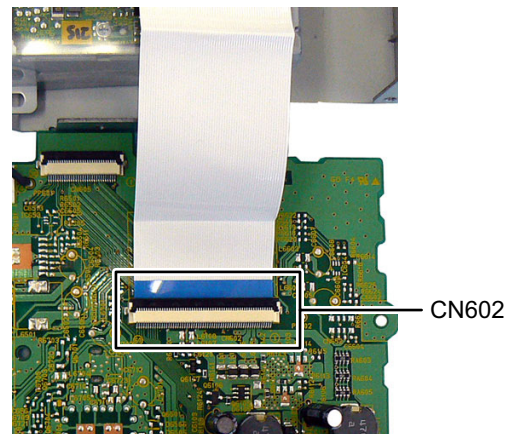

Fig.16
- (2) Disconnect the card wire from DVD mechanism connected to connector CN602 of the Sub board. (See Fig.16)